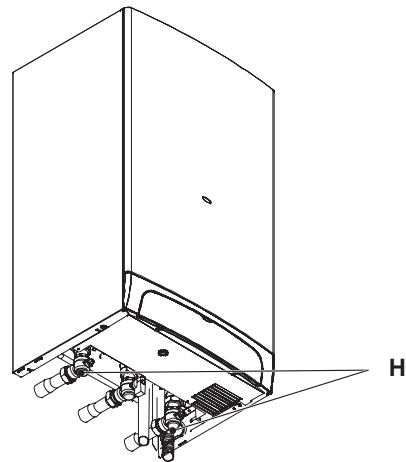

Figure 2.7
- 1 Close the C.H. circuit flow and return cocks H (Figure 2.7).